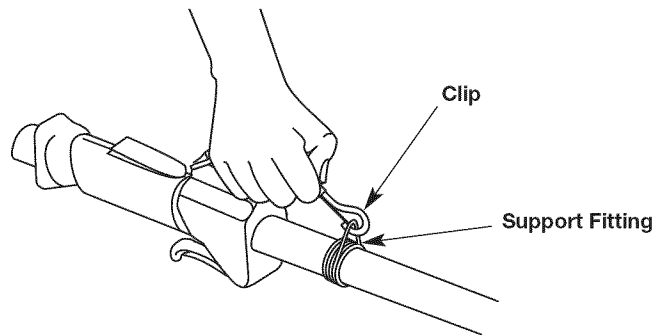

Fig. 4
4. Snap the clip onto the support fitting (Fig. 4).